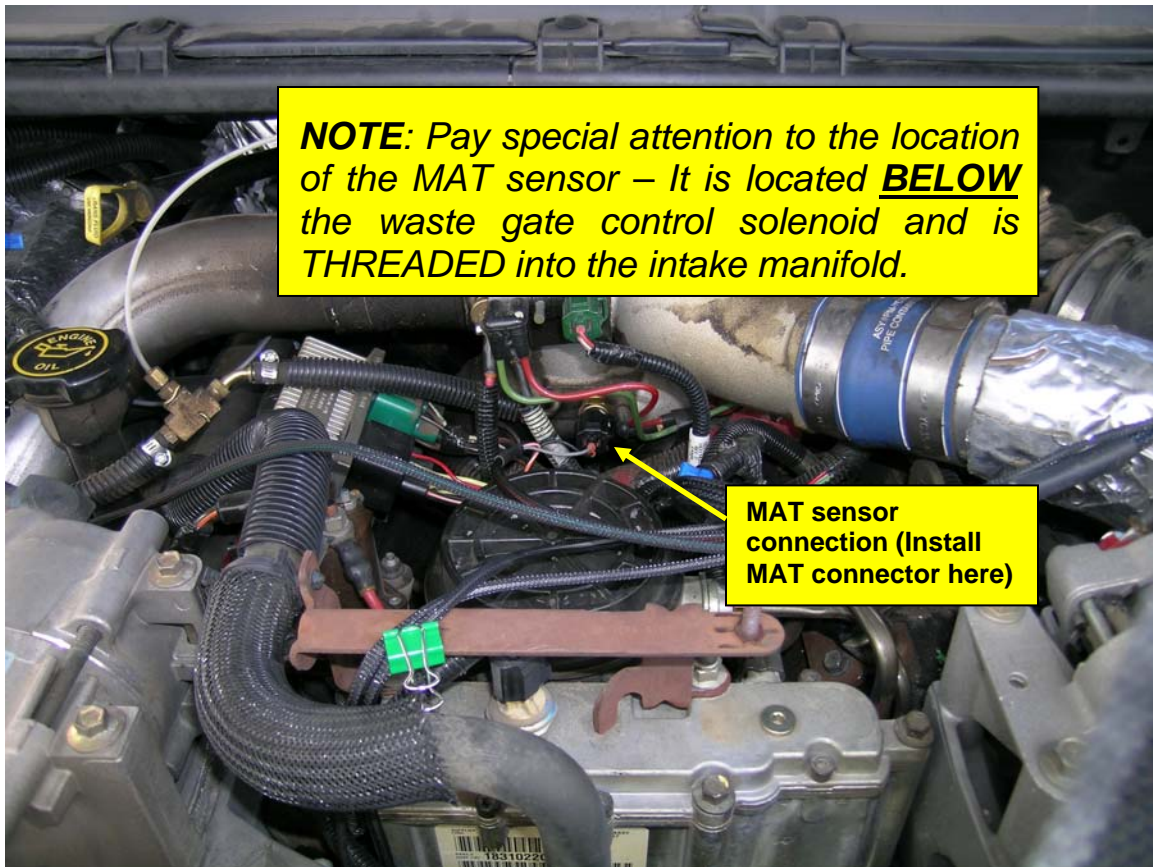

Figure 7
4. Connect the MAT “Y” connector between the wire harness and the sensor as located in Figure 7